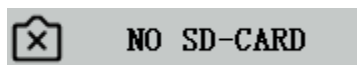

Figure 6-1
1. When pressing the snap button, recording videos, taking photos at a fixed time, or entering the SD card management menu, "NO SD-CARD" will be displayed, as shown in Figure 6-1. Please insert the SD card with file system FAT32 into the SD card slot on the right side of the camera, and then carry out corresponding operations.